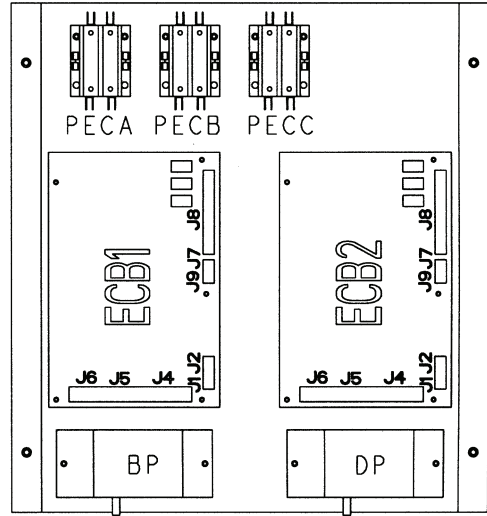

Fig. 11 — Auxiliary Control Box Layout
3. Install ECB2 in auxiliary control box (see Fig. 11 and 12).
3. Install building pressure transducer (BP) in auxiliary control box (see Fig. 11 and 13).